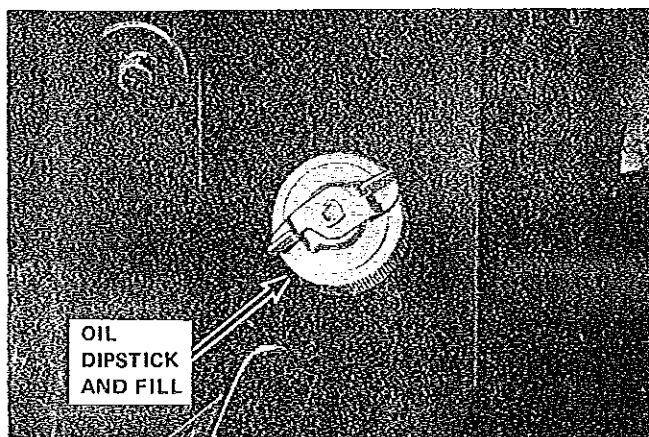

Figure 4
1. Check for proper level of engine oil. Fill crankcase through dipstick opening. The oil level is indicated by marks on the dipstick. See Figure 4.